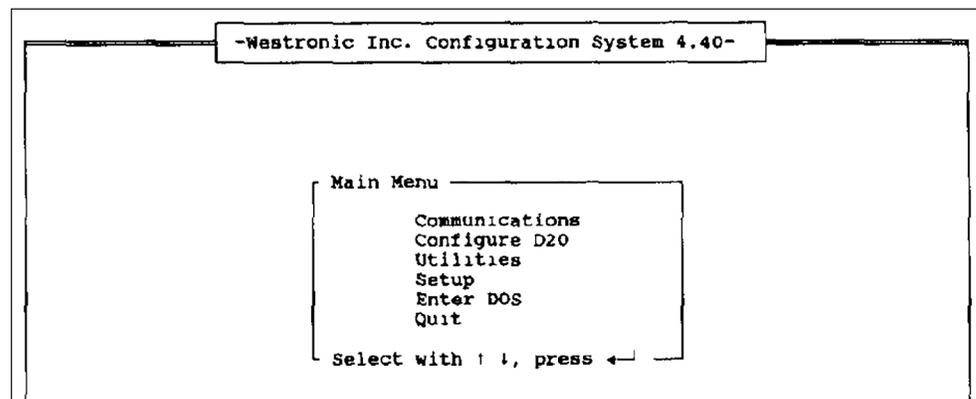

Figure 33. The *Main Menu* screen.
STEP 28. Using the arrow keys, select **Return to Main Menu** option and press the <ENTER> key. The *Main Menu* screen will open. See Figure 33.